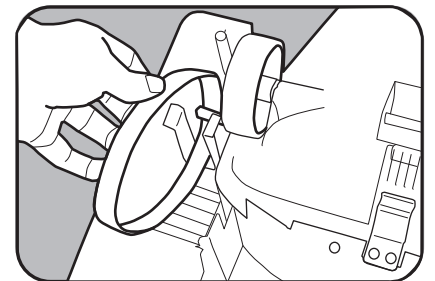

Fig. 3
2. Take out the agitator assembly and remove the belt (Fig. 3).